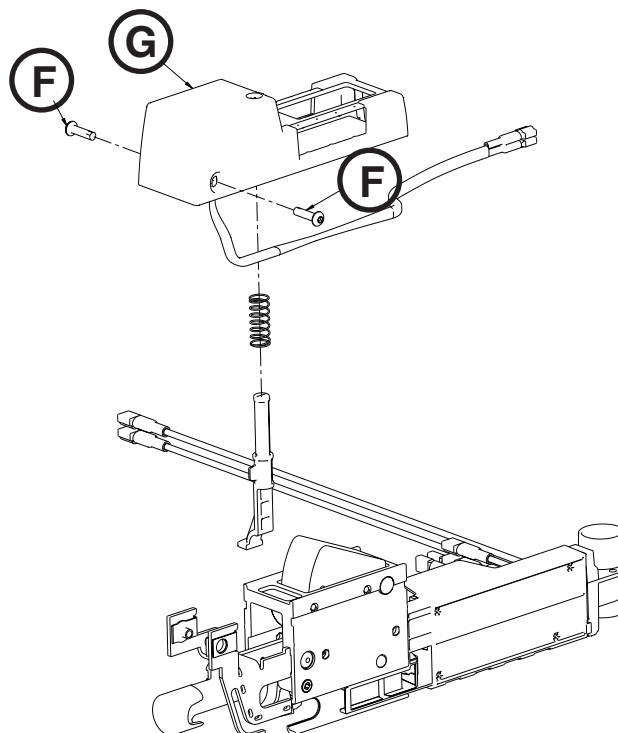

Figure 102
12. Using a 1/8" hex wrench, remove the two button head cap screws (F) that secure the anchor housing assembly, head end to the anchor pawl assembly and remove the anchor housing assembly (G) (Figure 102).